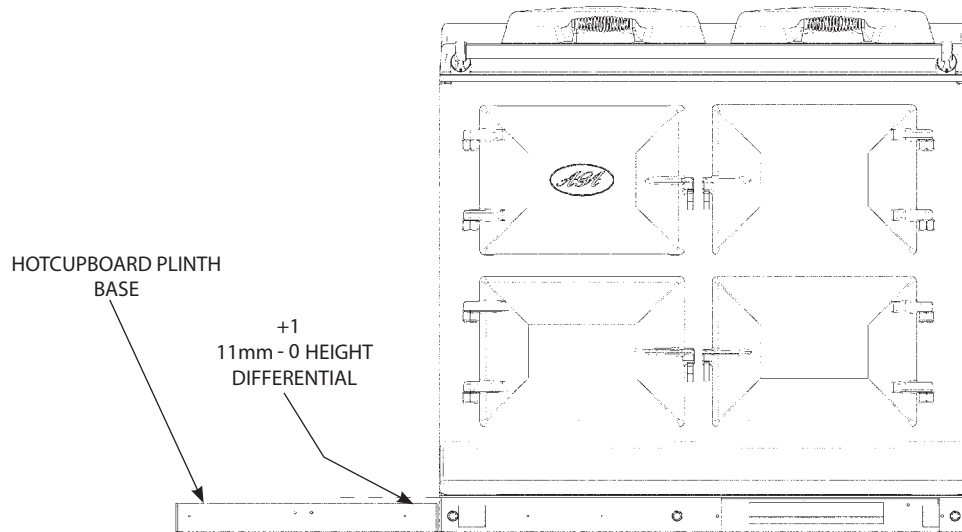

Fig. 17.3
2. Position the plinth alongside the AGA R7 leaving no gap between the two plinths (**Fig. 17.3**).